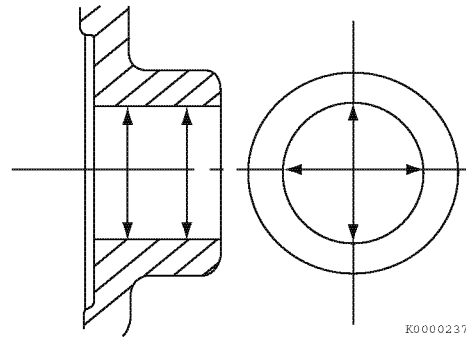

Figure 6-67
6. Measure the diameter of the wrist pin bore on both sides of the piston (**Figure 6-67**). See *Piston* on page 6-7 for specifications. Record the measurements.